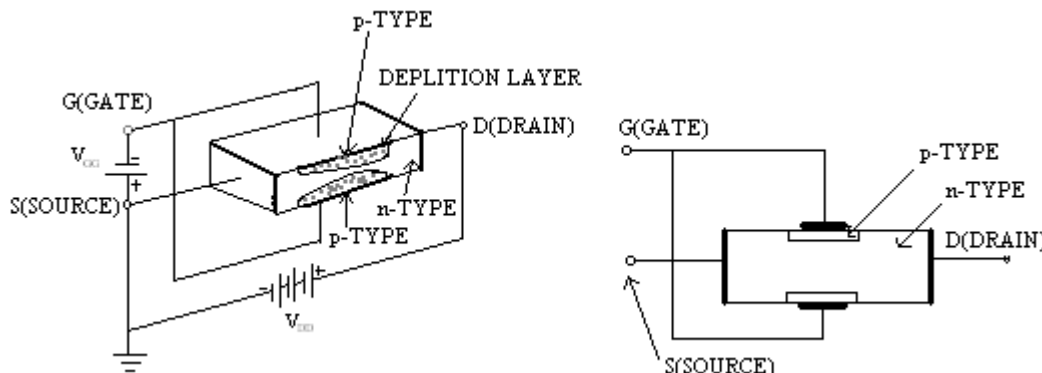

Fig. 35.1
**Marks (4)**
**Marks (10)**
**Ans: Constructional Features of N- Channel JFET:** In a N-channel JFET, an N-type silicon bar referred to as the channel, has two smaller pieces of P-type silicon material diffused on the opposite sides of its middle part, forming P-N junctions, as illustrated in fig.35.1